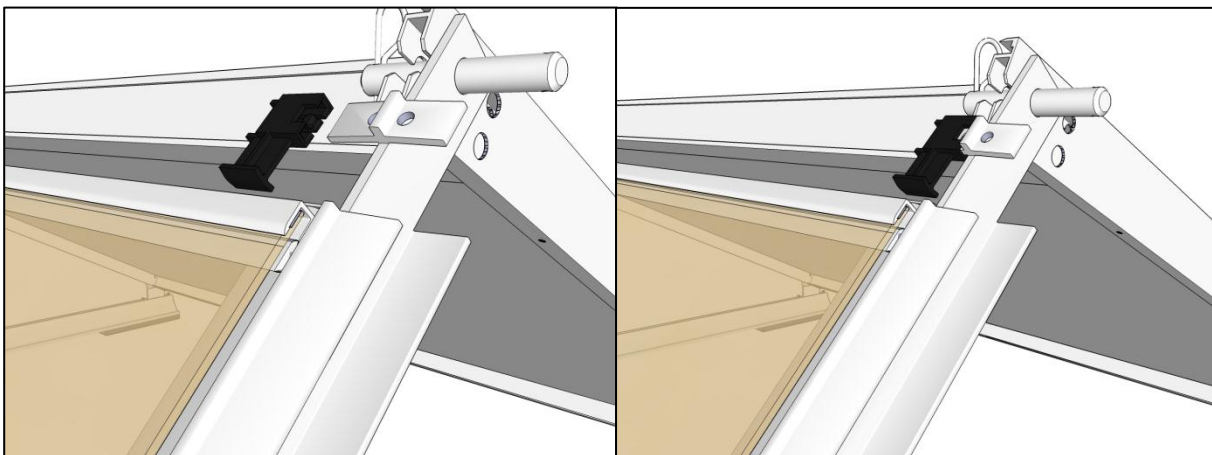

Figure 14
Step 11: Install Reflector Locks – Figure 14